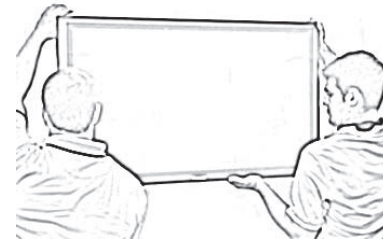

Figure 5
a. Carefully lift the television and place arm hooks over and onto top rail of Wall Plate (Figure 5). Let bottom angle downward and toward wall. The Safety Clips on the arms will click as they pass under the bottom lip of the wall plate.